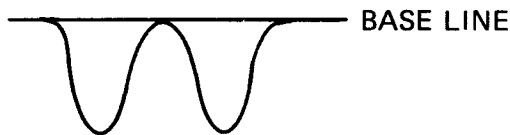

Figure 3-18. Transmitter Output R-F Envelope
Step 2. With radio set fully operative, observe transmitter r-f envelope on oscilloscope. It should appear as shown in figure 3-18. Note that gain, sweep speed, and trigger selection controls on oscilloscope are automatically set as required for this test by internal controls associated with position 1, **OPERATING TEST**, of **FUNCTION** switch. Adjust-
Step 5. While observing pulse envelope on oscilloscope (figure 3-18), turn PEAK PWR VOLTAGE control clockwise until negative pulses just touch baseline. At this point, stop advancing control and read r-f power directly in kilowatts on PEAK RF POWER meter. Release RF POWER switch. A reading of 7.0 kw or more is considered normal. If this requirement is not met, report trouble to technical personnel.
(3) VISUAL PULSE SHAPE.
Step 2. With the radio set fully operative, observe r-f envelope on oscilloscope; it should appear as shown in figure 3-18.
(4) OUTPUT PULSE COUNT.
(5) OUTPUT PULSE SPECTRUM TEST.—The built-in test equipment includes a sharply tuned relative power meter (analyzer portion of TS-890A/URN-3) which is used to compare sideband energy with center frequency energy for an accurate check of pulse shape. The test equipment is highly specialized for this purpose. The test is made with the beacon operating under normal traffic conditions. Proceed as follows: